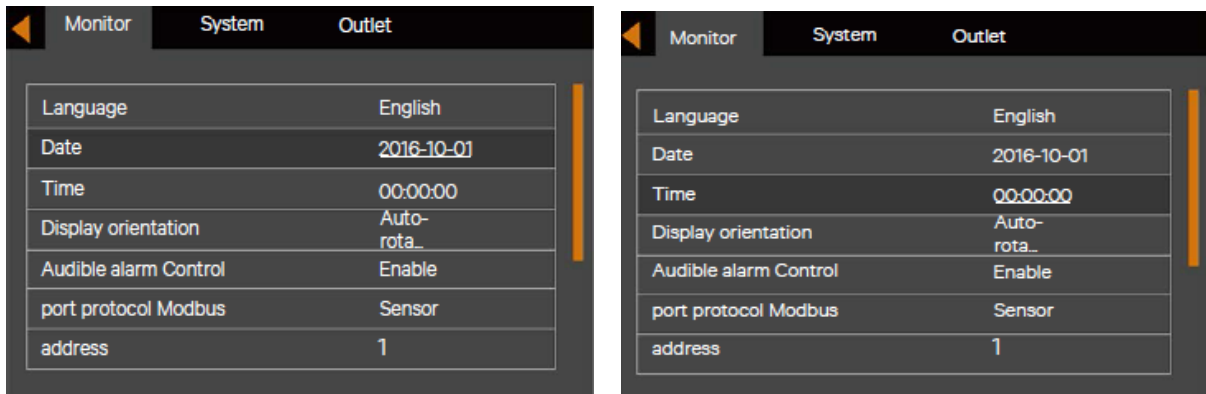

Figure 5-15 Changing date and time
4. Press the  key, move the cursor and press the  or  key to change the date and time you need. See Figure 5-15.